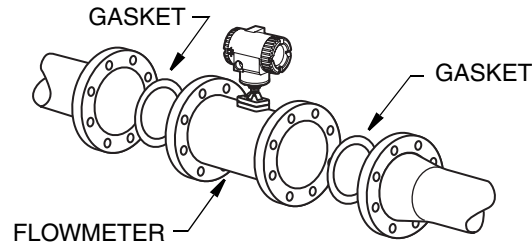

Figure 24. 84F Flowmeter Installation
2. Insert gaskets between the body of the flowmeter and adjacent flanges. See Figure 24. Position the gaskets so that the ID of each gasket is centered on the ID of the flowmeter and adjacent piping.